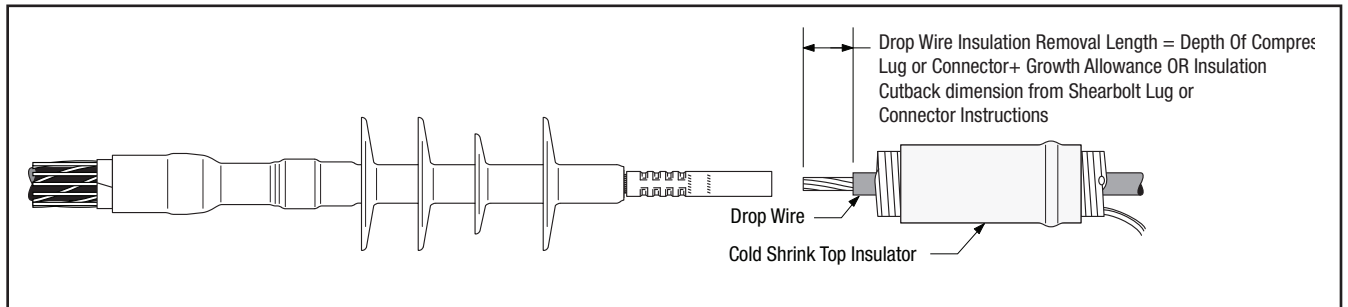

Figure 13
9.2 Remove insulation from end of drop wire (See Figure 13).
9.3 Position Cold Shrink top insulator (Figure 13) over drop wire; directing loose core pull tab away from connector/lug area (**DO NOT PULL CORE AT THIS TIME**).